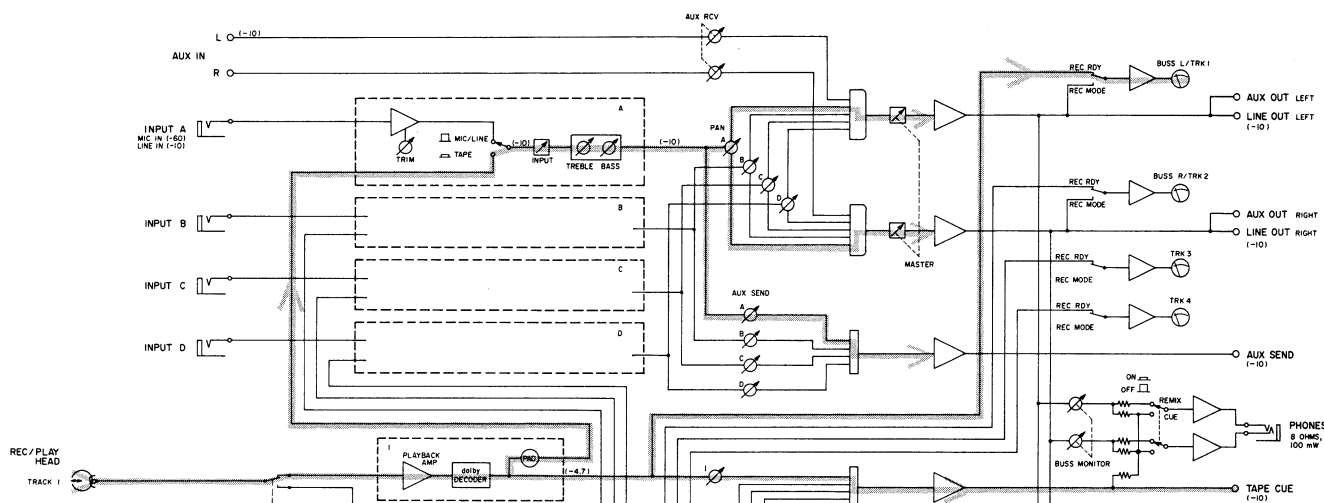

Fig. 5-10-3
C. Signal route : Refer to Fig. 5-10-3
The signal picked up from the tape passes through the playback amplifier, the Dolby circuit, and is sent to the various output circuits. With the TAPE CUE knob at the standard setting, check for the reference signal at the TAPE CUE output terminal. Signals to other outputs are sent via the route detailed in Items 5-10-1, -2, and -3. Fig. 5-10-3 shows the playback signal route for one channel only.